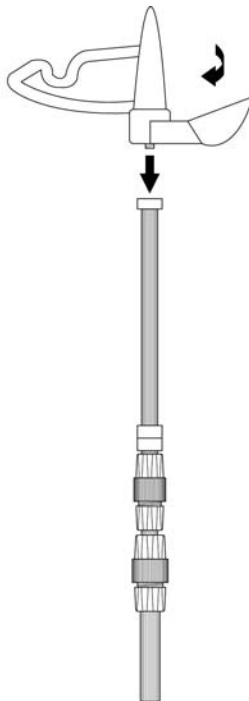

FIGURE 2
2. Place Pole Top onto top of Pole Extension as shown (FIGURE 2) and rotate in a clockwise direction until tight and secure.